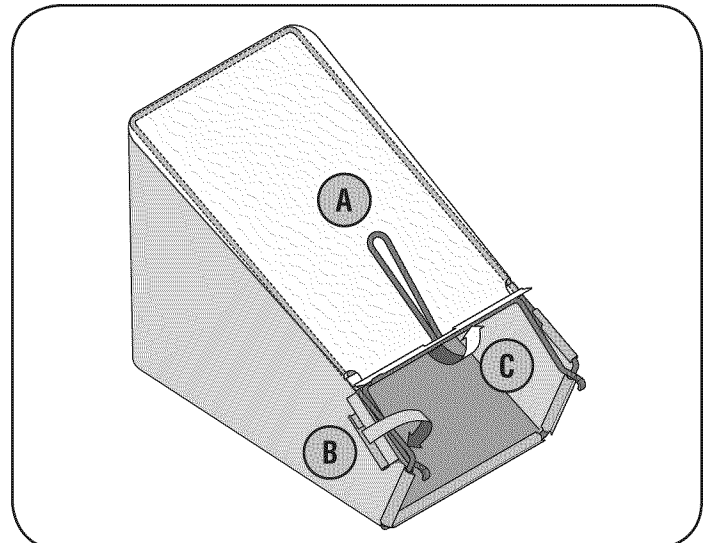

Figure 5
- B. Slip plastic channel of grass bag over hooks on the frame. See Figure 5. All the plastic channels except center top of bag attach from outside of bag.